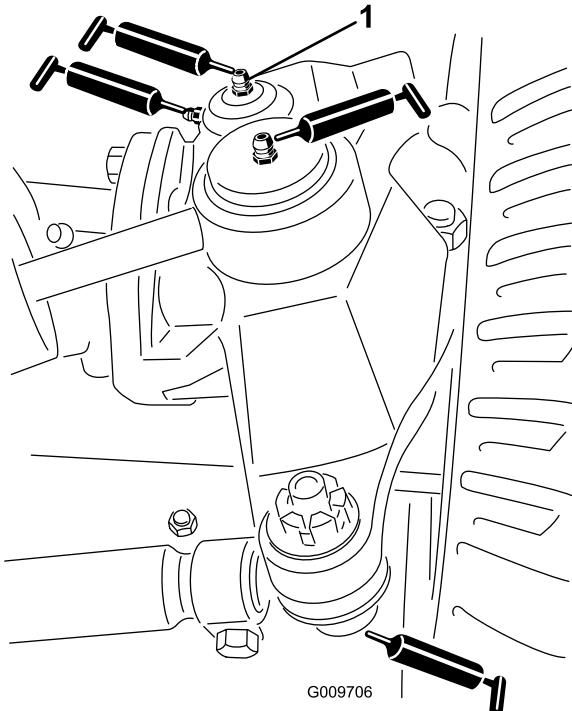

Figure 28
- Steering-cylinder ball joints (2) (Figure 28)